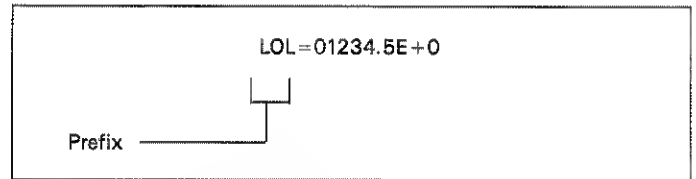

Figure 4-8. U5 Low Limit
The U5 command allows access to the current setting of the LO-limit value. The format for the LO-limit value that is sent over the bus is shown in Figure 4-8. The value will be either in °C or °F depending on the current O (Output) mode. The LO-limit value can only be changed by the LO-limit command (L).